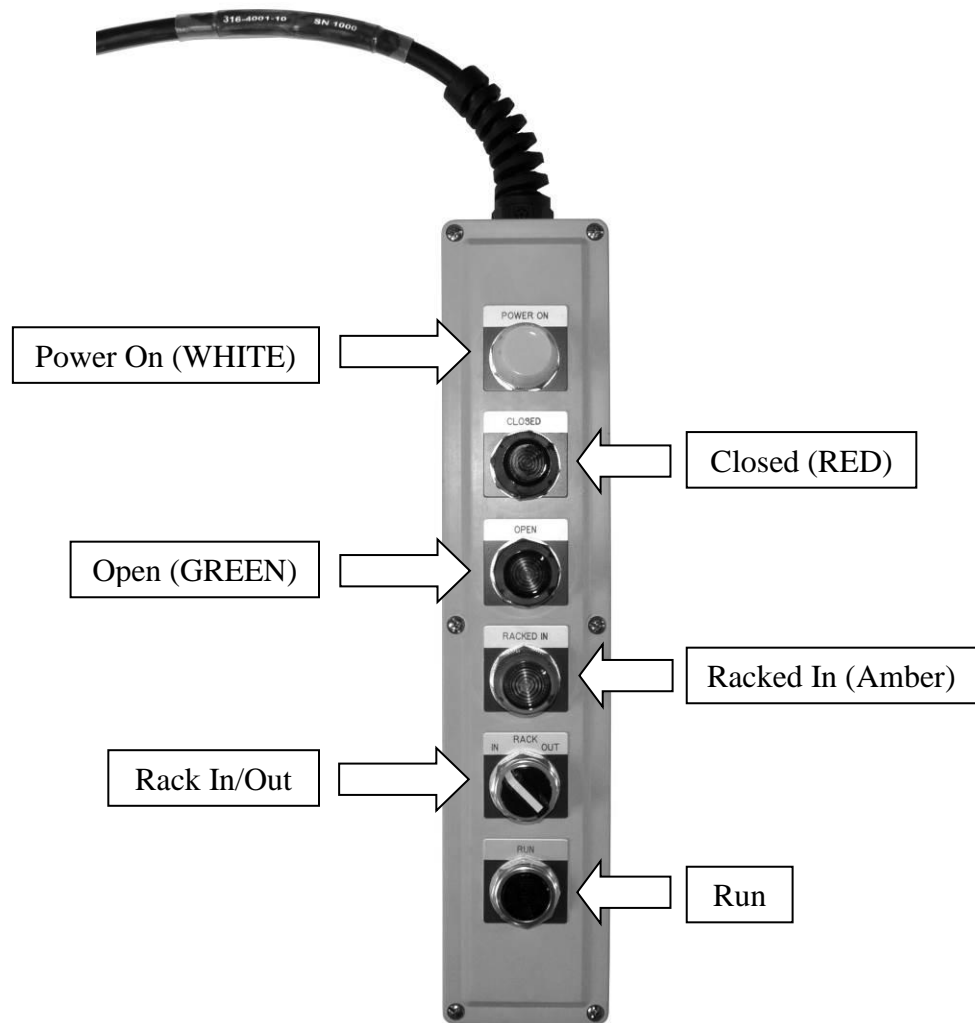

Figure 15
The 416NP uses a Racking Pendant to control the automatic racking in and out of the removable breaker. This Racking Pendant is equipped with four (4) Indicator Lights, a Selector Switch and a Push Button. The White LED indicates whether the racking circuit has 'POWER ON'; the Red and Green LEDs indicate whether the protector main contacts are 'CLOSED' or 'OPEN'; and the Amber LED indicates that the removable breaker is fully 'RACKED IN' when illuminated. The Selector Switch is used to choose the direction the mechanism is going to travel, whether it be 'IN' or "OUT", while the momentary Push Button initiates the racking circuit, 'RUN'. (See Figure 15)